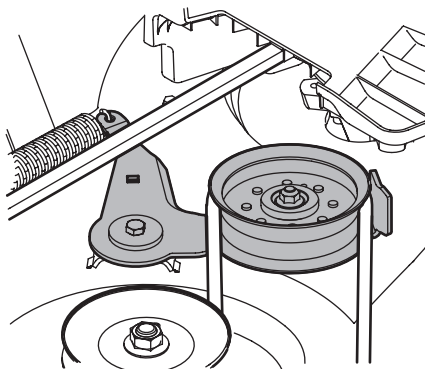

Figure 4-3
- Working on the right side of the tractor, insert a  $\frac{3}{8}$ " drive ratchet wrench, set to *tighten*, into square hole found on the idler bracket. See Figure 4-3.
- Pivot the wrench forward to move the deck drive pulley forward. See Figure 4-3.